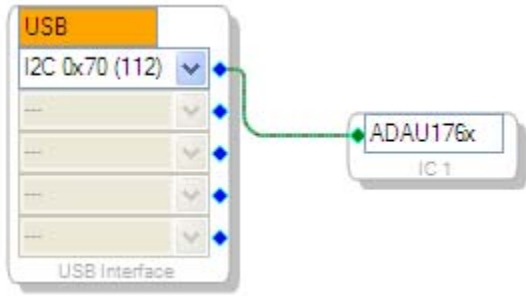

Figure 2. Hardware Configuration Tab
2. Connect the two devices by clicking and dragging from the top blue output pin of the **USBi** cell to the green input pin of the **ADAU176x** cell (see Figure 2).